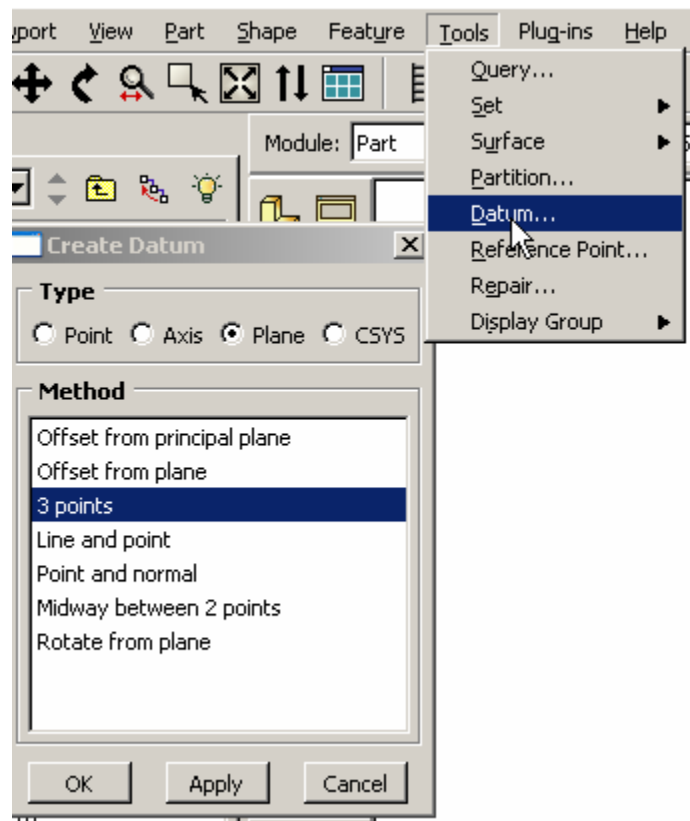
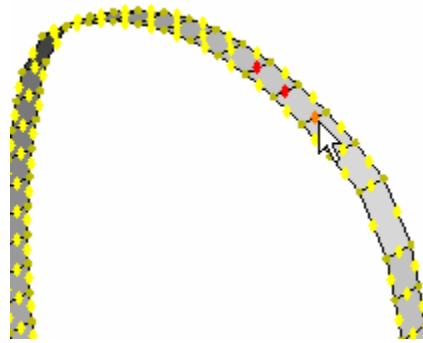

Figure W-9
Figure W-10
7. To create strings we will first create partition at the middle of the frame. We will use a datum plane for partition. So to create a datum plane first choose **Tools**→**Datum**. In the **Create Datum** window choose **Plane** with **3 point Method** (Figure W-9). Click **Ok** and Select 3 points at the middle of the frame (Figure W-10). This will create a datum plane at the middle of the frame.